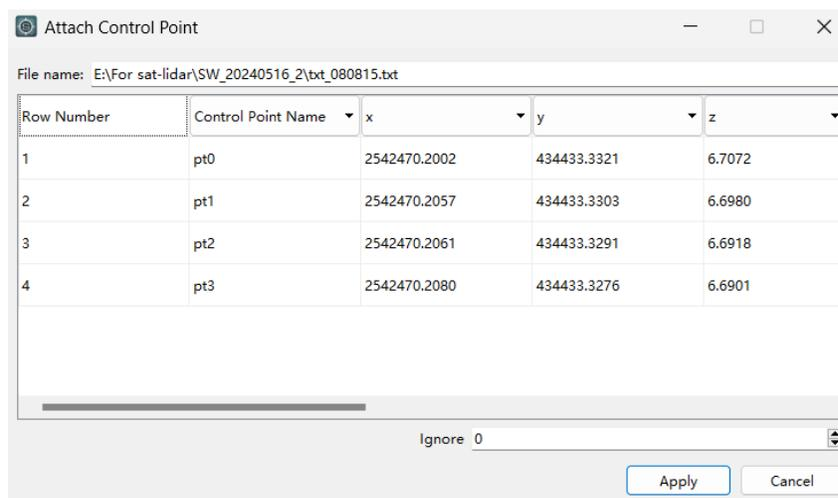

Figure 3-72 Related Control Points
2. After selecting the control point file, click OK to open the ASCII file window (Figure 3-72), supports the setting of how many lines in front of the control point is ignored;